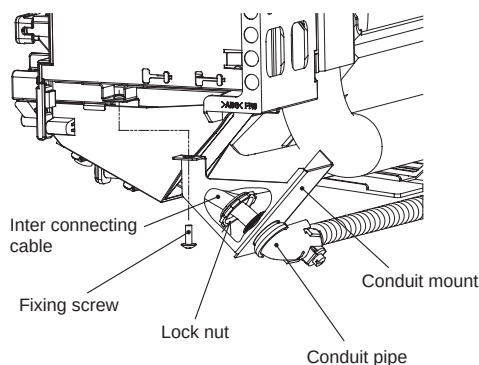

Fig. 10-3-7
5. Remove the conduit mount by loosening the fixing screw. (Fig. 10-3-7)